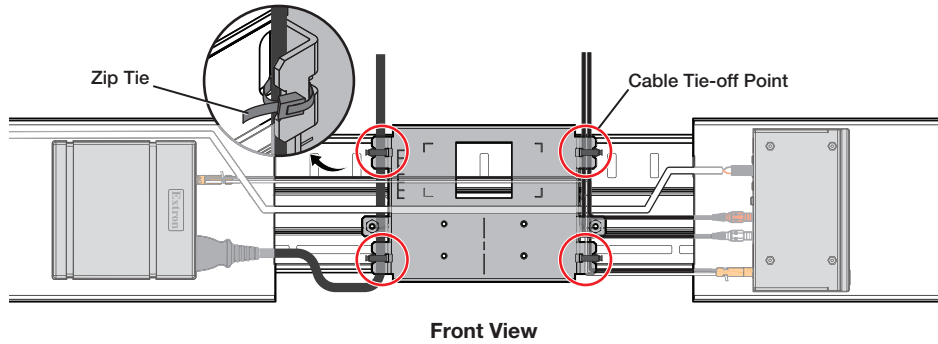

Figure 19. Securing Cables with Zip Ties
2. Use zip ties to secure cables to the cable tie-off points located on the center bracket, as shown in figure 19.